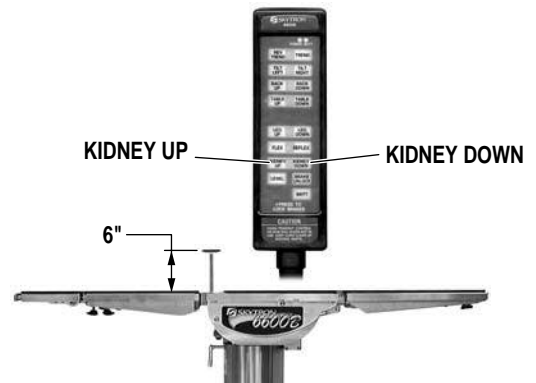

Figure 3-10. Kidney Lift Positioning
h. Kidney Lift. To raise the built-in kidney lift, press the KIDNEY UP button (figure 3-10). Up to 6 inches of lift can be achieved. Press the KIDNEY DOWN button to lower the kidney lift.